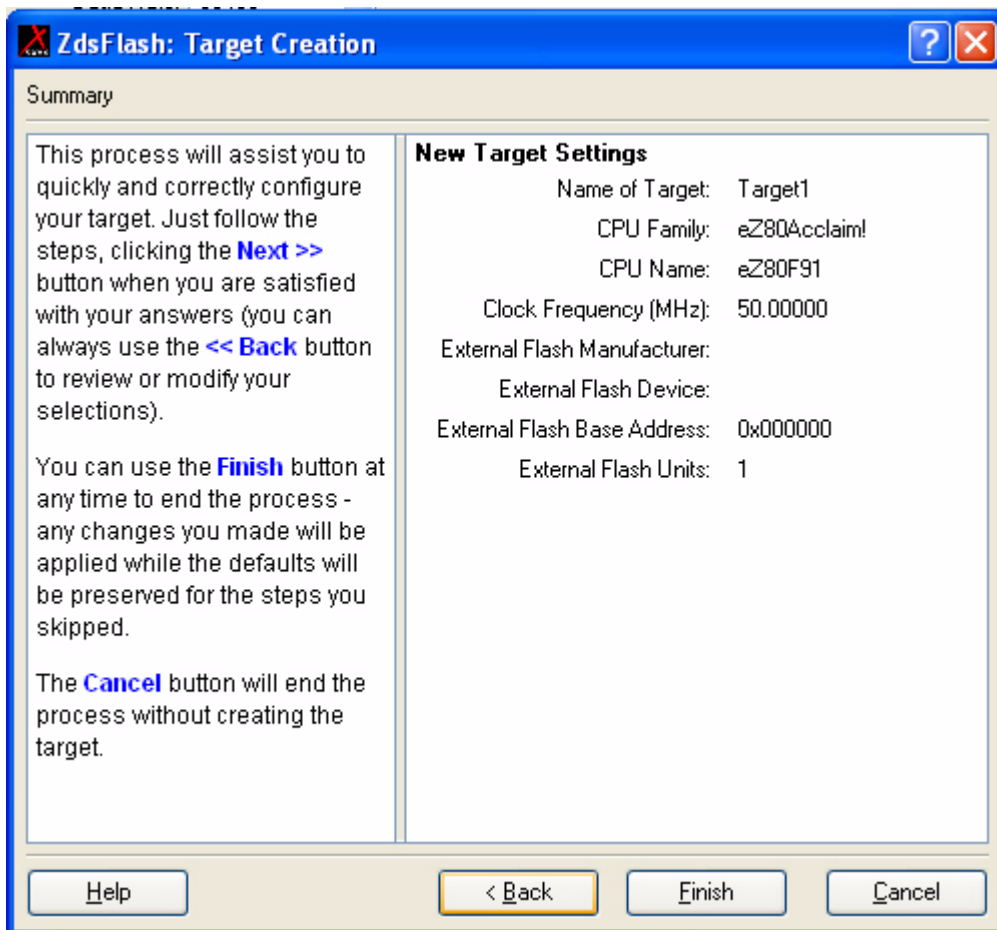

Figure 84. Target Summary Window for eZ80Acclaim!®
9. Click **Next**, the **Target Summary** (see Figure 84) window will be displayed. The **Target Summary** (see Figure 84) window provides a summary of all your selections made during the creation of a target device.